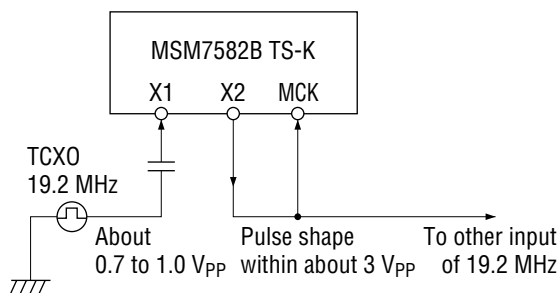

Figure 9 Example of Application Circuit when the Clock Pulse Shaping Mode is Generated by CR5-B1
- 1/ Clock pulse shaping mode (Refer to Fig 9.)